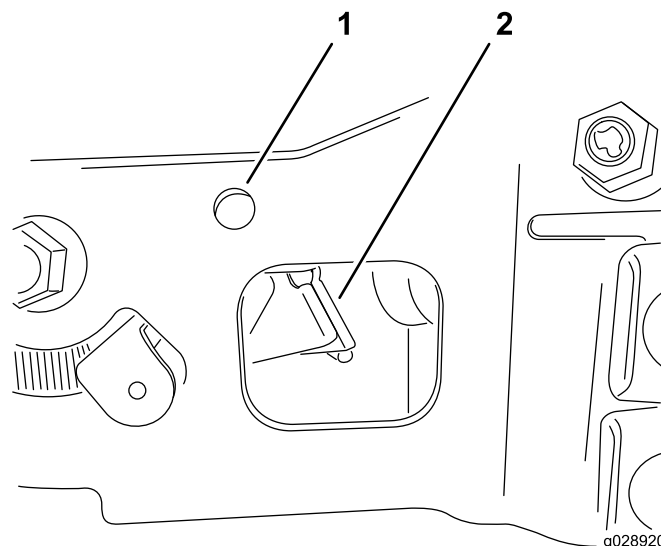

Figure 2
6. Insert a 4 mm (5/32 inch) pin or drill bit into the locking hole (Figure 2).
7. Use a needle nose pliers to bend the tab to obtain desired speed (Figure 2).